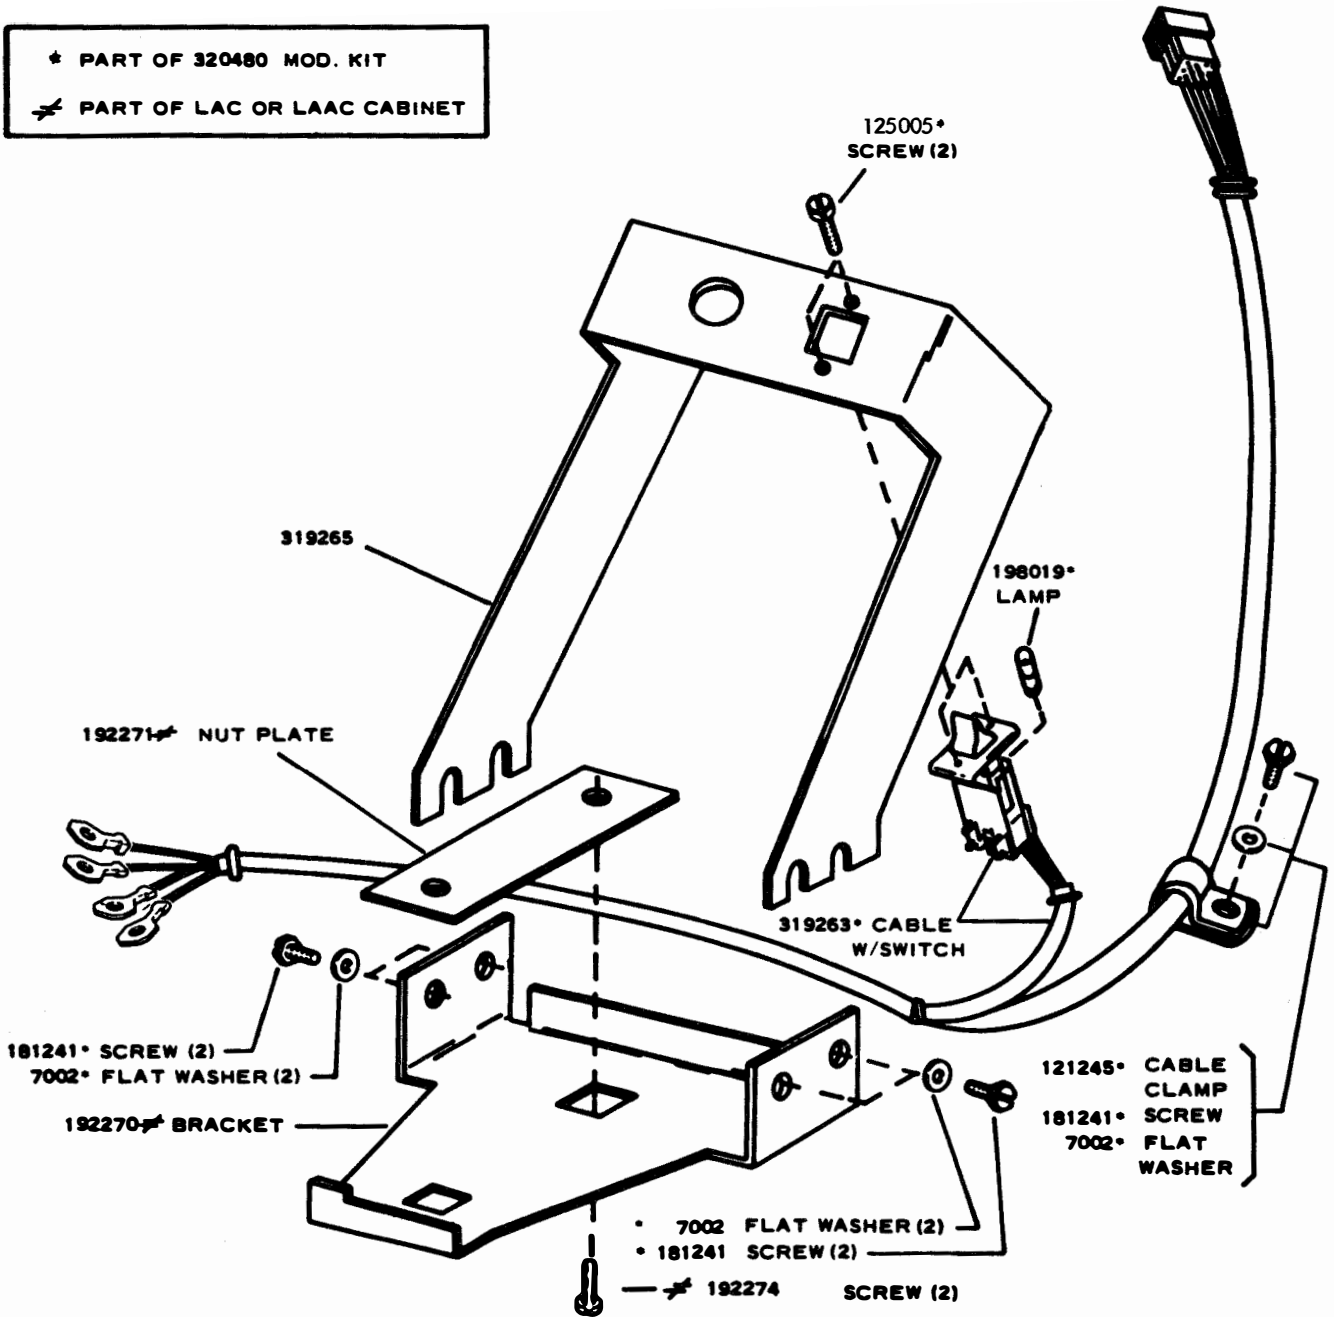
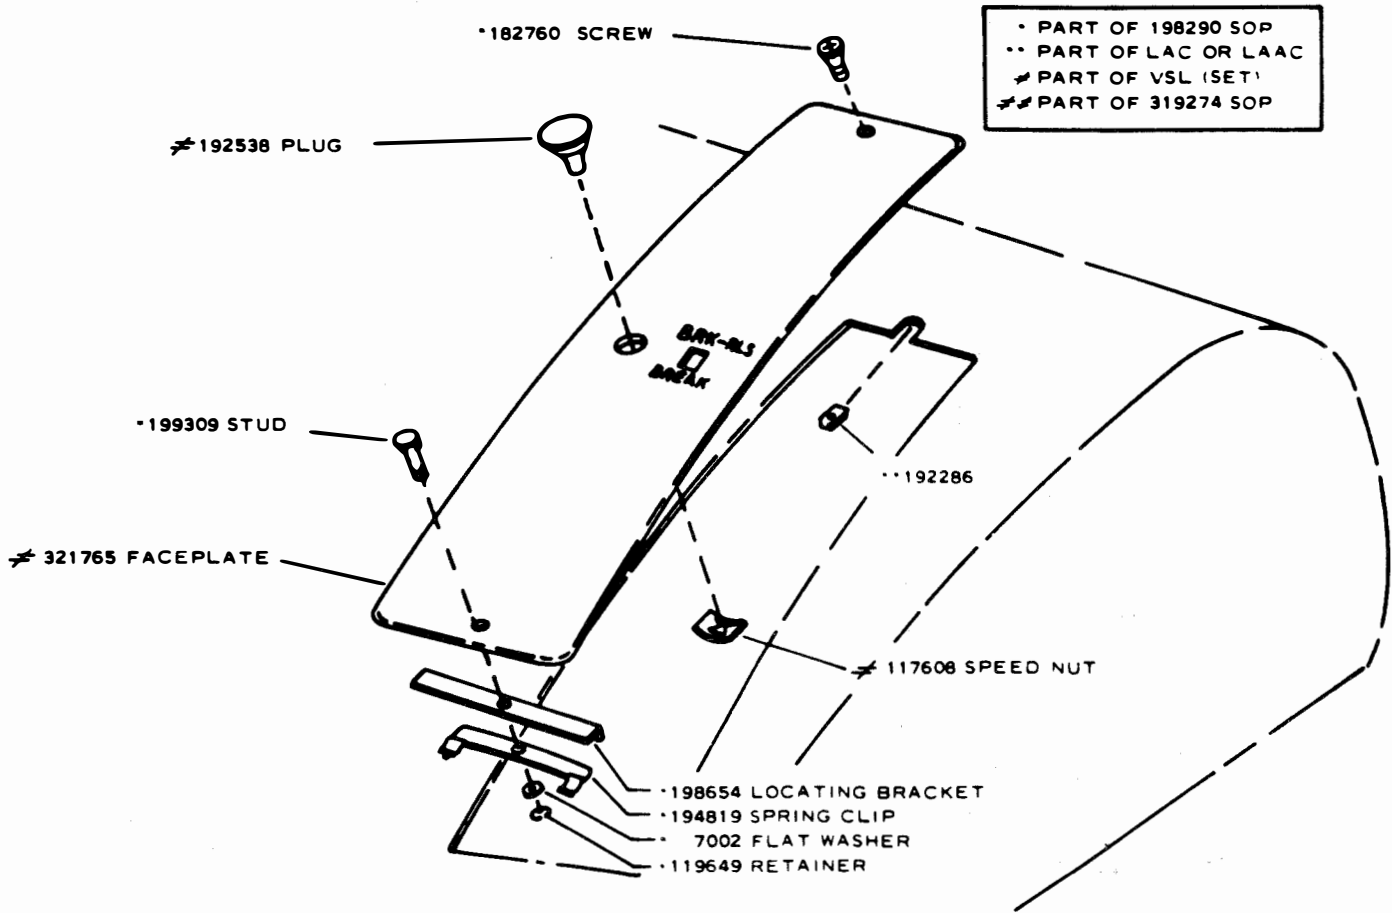
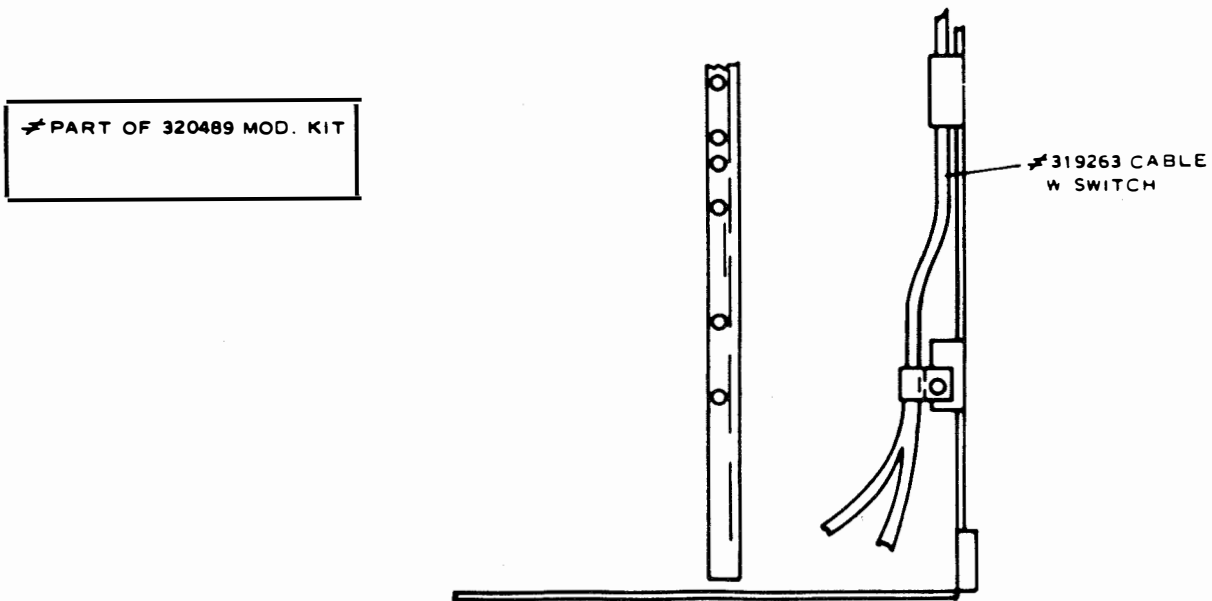

FIGURE 1
FIGURE 2
FIGURE 3
2. INSTALLATION (Figures 1 to 3)
- 2.02 Mount the 319265 switch mounting bracket to the 192270 bracket (located to the right of the keyboard or RO Set face panel) using four 181241 screw w/lockwashers and four 7002 flat washers. Refer to Figure 1.
- 2.05 Mount the 321765** faceplate to the cabinet cover using the 198290 set of parts (SOP). (Refer to Figures 2 & 3.) Lower the cover slowly checking the fit between it and the handle of the 319263 cable assembly w/switch. To move the switch and bracket assembly forward or rearward of to the left or right loosen the two 192274 allen head screws holding the 192270 bracket (Figure 1). Adjust the assembly for a good fit with the square hole in the faceplate and tighten screws.
- 2.06 Route the 319263 cable as shown in Figure 3 using a 121245 cable clamp, one 181241 screw and one 7002 flat washer (refer also to Figure 1).